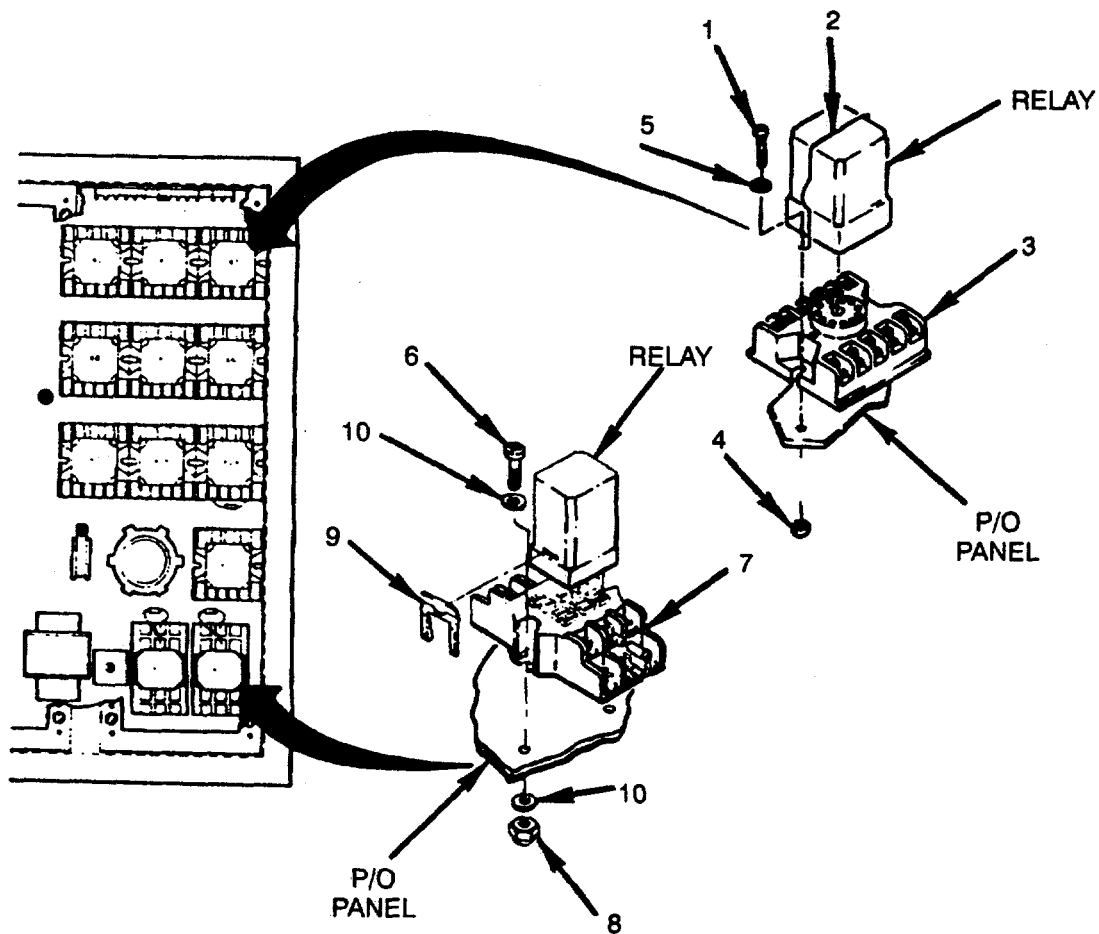

Figure 4-53. Relay Sockets (11-Pin)
2. Check that relay socket and terminals are not cracked, broken, loose, or corroded (see Figure 4-53).